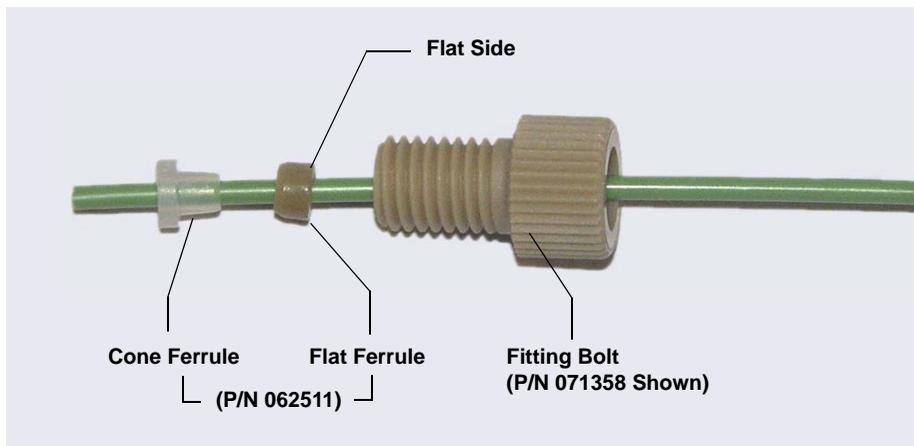

Figure 5-24. Fitting for Buffer Line
- a. Slide the fitting bolt onto the tubing as shown in Figure 5-24.
- c. With the flat side of the small tan ferrule facing toward the fitting bolt, slide the ferrule onto the tubing. Then, slide the clear cone ferrule onto the tubing with the cone toward the flat ferrule and fitting bolt (see Figure 5-24).